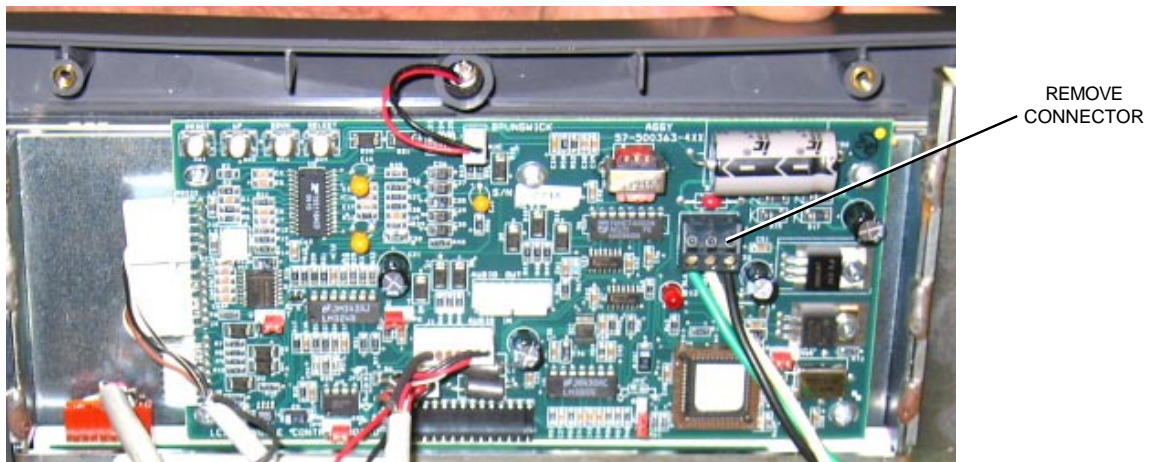

Figure 6
2. Remove the power from the LCD scorer by removing the black connector with three wires, (black, green, and white), from the PC Board. *Refer to Figure 6.*